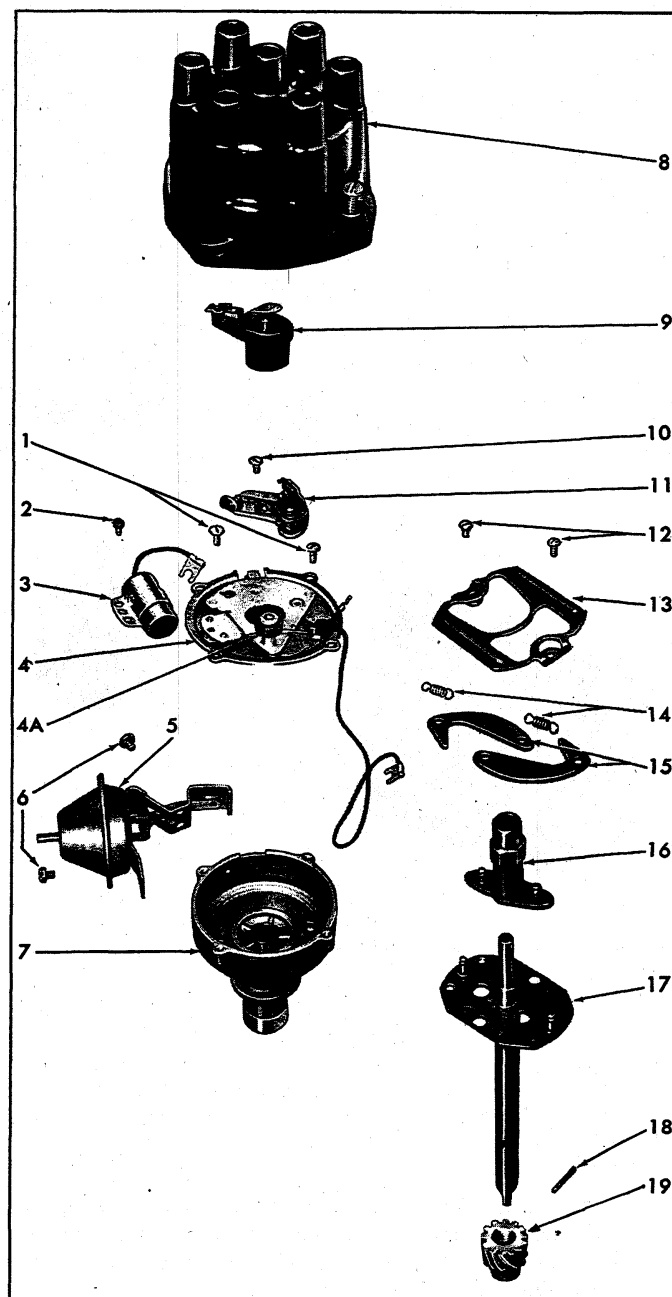

Fig. 12i—L-6 Distributor—Exploded View
Refer to Figure 12i.
4. Remove the breaker plate attaching screws, remove the breaker plate from the distributor housing (fig. 12i).
Refer to Figure 12i for Exploded View of Distributor.